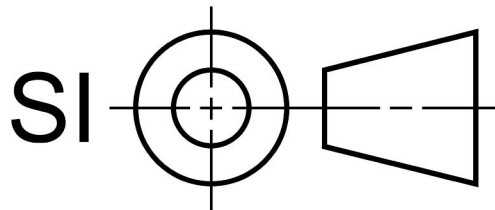

Figure 2-19: SI projection symbol.
- e) Metric 3rd angle drawings should be designated by the SI projection symbol shown in Figure 2-19.